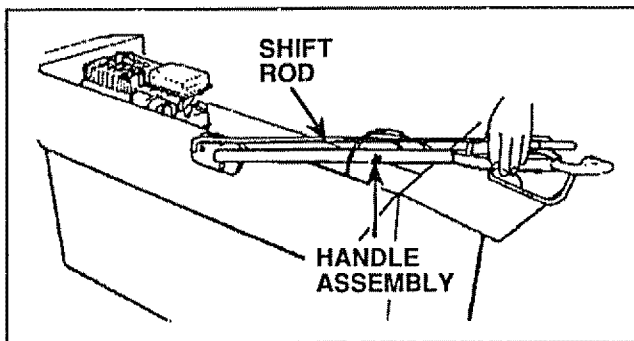

FIGURE 2
- Slowly ease Handle Assembly up and place upside down on top of Carton (Fig. 2).